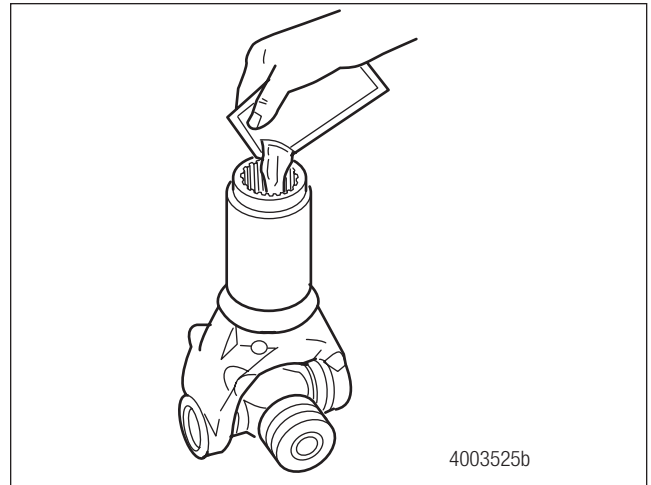

Figure 5.10
2. Use the grease packet supplied with the slip yoke to apply the entire amount of grease into the slip yoke. Figure 5.10.